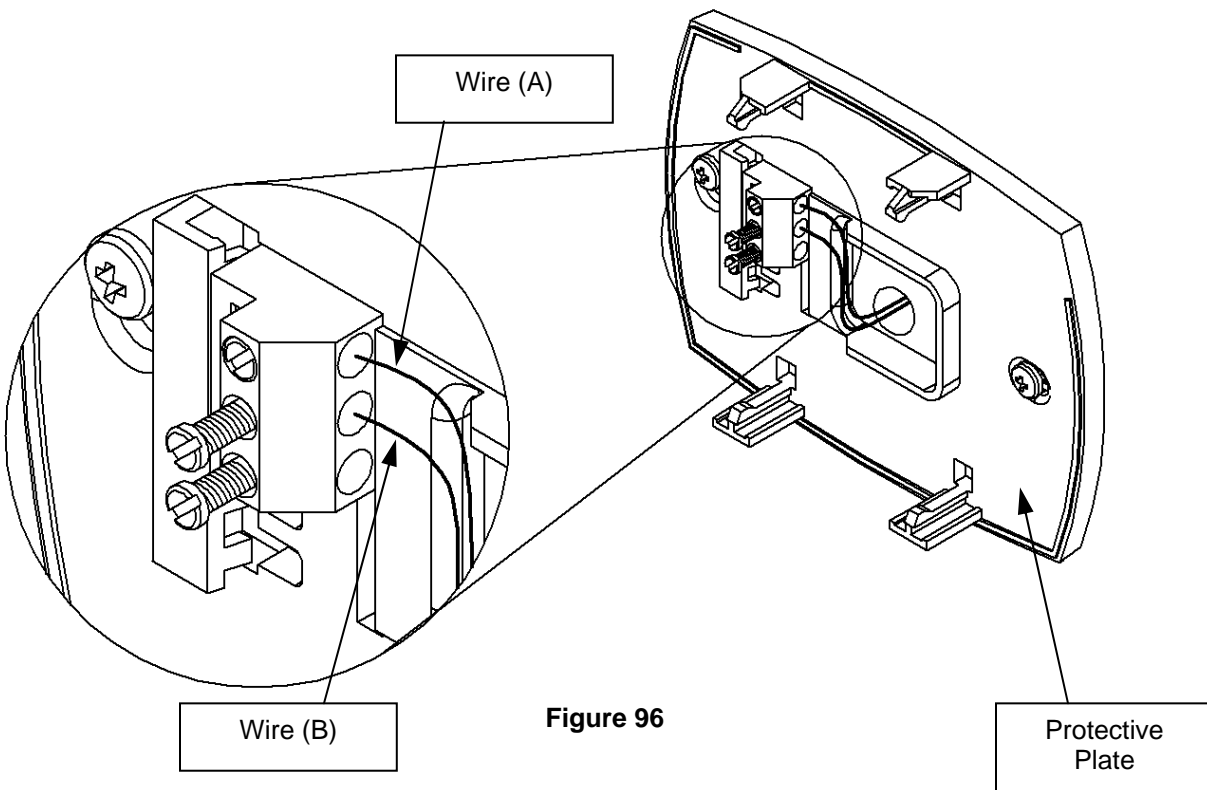

Figure 96
Step 16: Using wire (B), insert one end into the middle terminal location on the Protective Plate. This is shown in Figure 96.